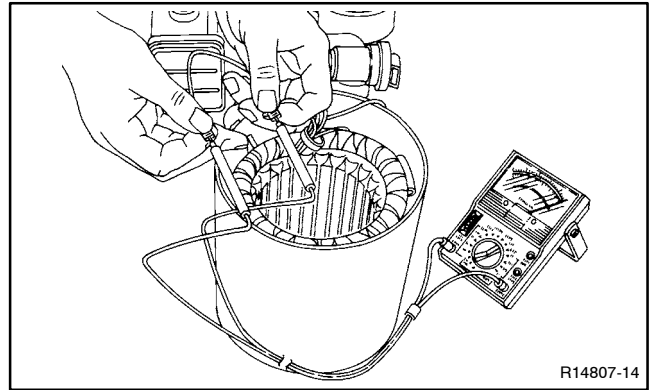

Figure 6-10 Testing Stator Windings
5. To check for stator continuity, set the ohmmeter on R x 1 scale. First set the ohmmeter zero by holding the red and black meter leads together and setting the ohmmeter reading to zero. Then check the stator continuity by connecting the meter leads to the stator leads as shown in Figure 6-10.